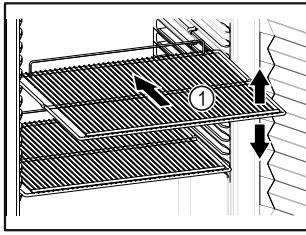

Fig. 86 Example illustration
- ❑ If storage surfaces Fig. 86 (1) are movable, adjust them according to height.